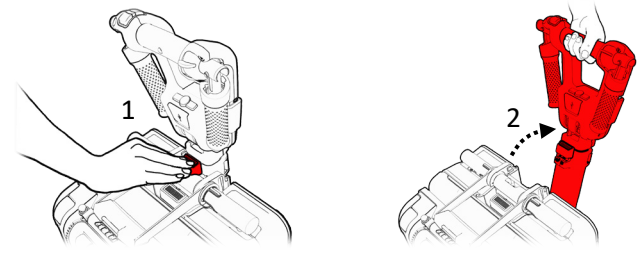

Figure 6
4. Press the rod button (1) and tilt it away from the main ATTO body (2). (see Figure 6).